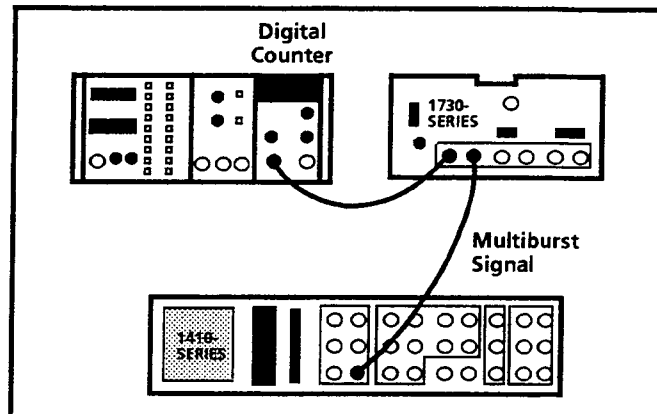

Fig. 5-5. Equipment hookup for checking $0.2\ \mu\text{s}$ timing .
- k. Connect the multiburst output from the television signal generator to the 1730-Series CH-A INPUT, and loop-through connect the signal to the digital counter. See Fig. 5-5.